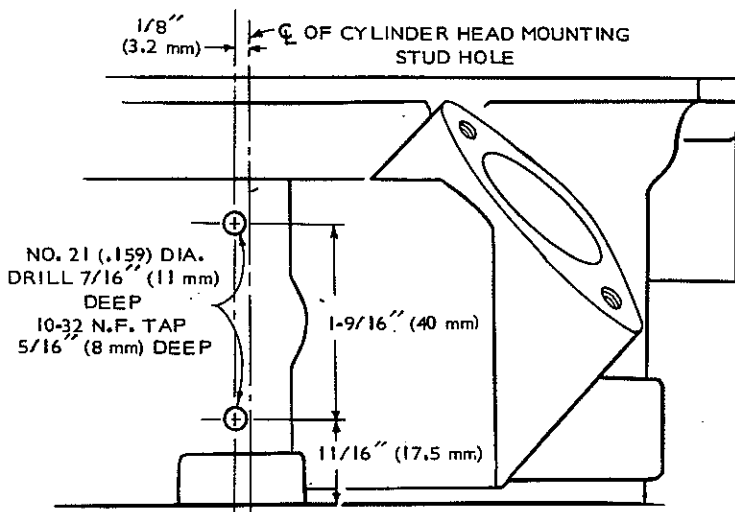

FIGURE 6-38. DRILLING BY-PASS
19. Remove thermostat and drill a 1/8-inch hole from thermostat compartment to by-pass hole, Figure 6-38. Be careful not to damage surface of thermostat seat.
13. Remove thermostat and drill a 1/8-inch hole from thermostat compartment to the by-pass drilling, Figure 6-38. Be careful not to damage the surface of thermostat seat.